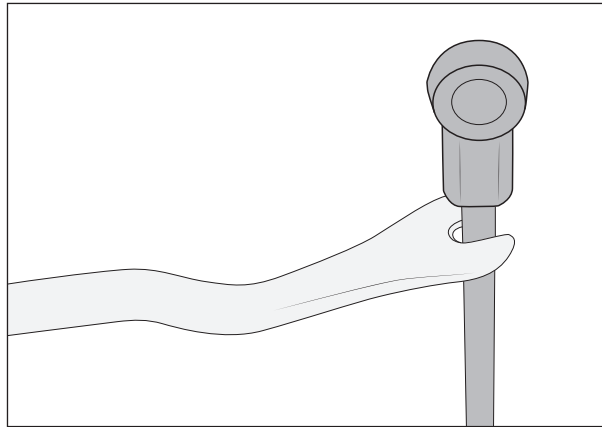

Figure 15
- f. Remove socket ends from links. An easy way to remove the socket ends is to place a metal trim tool under the socket end and pry upwards (fig. 15).